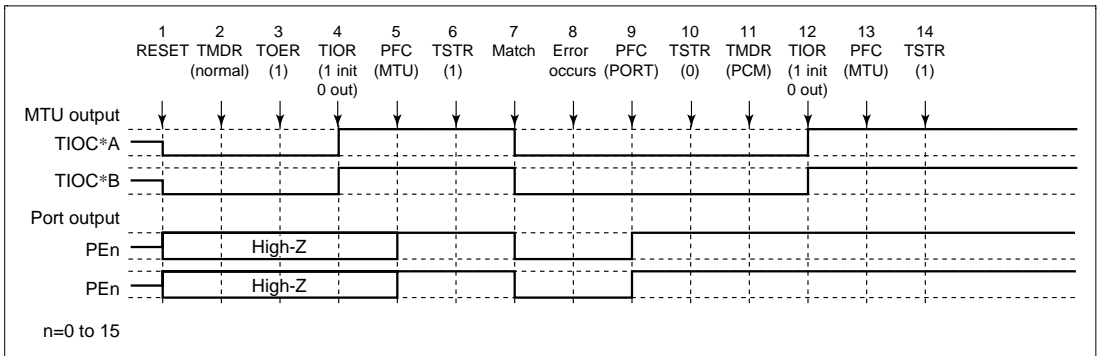

Figure 12.99 Error Occurrence in Normal Mode, Recovery in Phase Counting Mode
(4) Operation when Error Occurs during Normal Mode Operation, and Operation is Restarted in Phase Counting Mode: Figure 12.99 shows an explanatory diagram of the case where an error occurs in normal mode and operation is restarted in phase counting mode after re-setting.